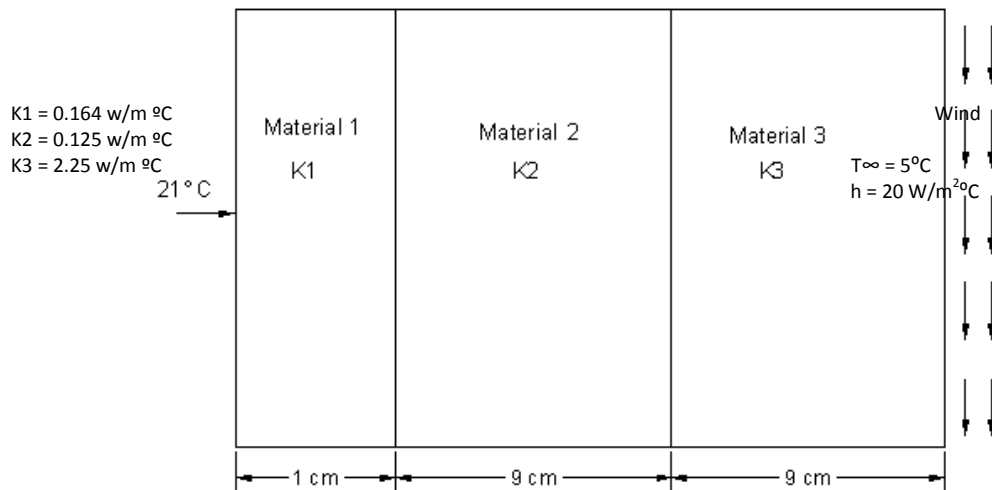

Figure 3
- (b) The interior wall of a room is maintained at temperature of 21°C . The wall is built using partial board insulation and bricks as shown in Figure 3. On a mild day the outside air temperature has a convection co-efficient of $20\text{ W/m}^2\text{ }^{\circ}\text{C}$. Determine the temperature at wall interfaces and the rate of heat loss from the room per sq. m.